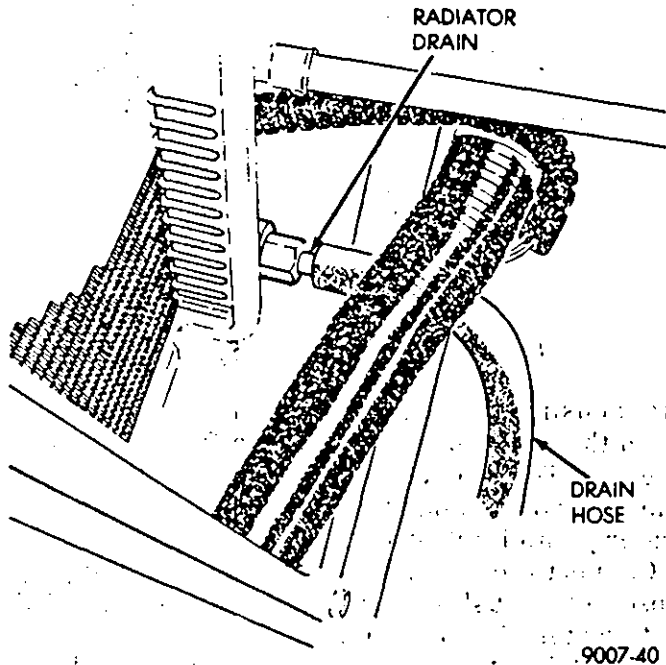
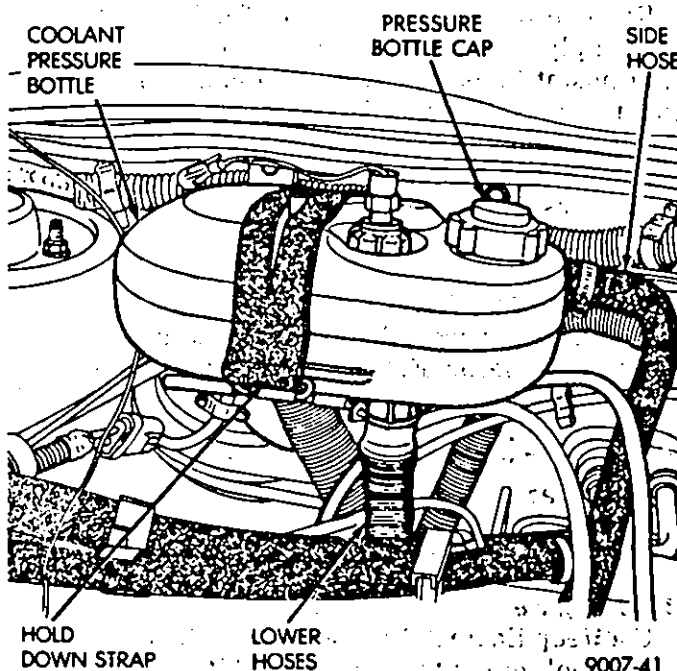

Fig. 15—Radiator Drain and Drain Hose
Fig. 16—Coolant Pressure Bottle Cap
(1) Attach one end of a 6.35 mm (1/4 in) ID hose, that is approximately 914 mm (36 in) long, to radiator drain. Place the other end of the hose in a clean container with a capacity of at least three gallons (Fig. 15).
(2) Open radiator drain.
(3) Remove coolant pressure bottle cap and let radiator drain (Fig. 16).